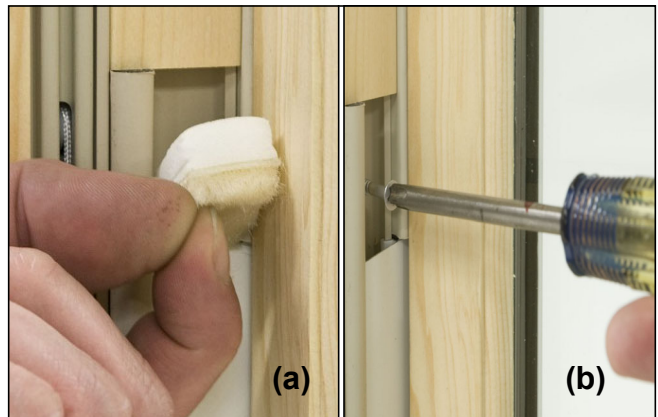

Figure 4
3. Space fasteners along jambs and head jambs no more than 6" (152) from each corner and 15" (381) on center.
4. Install screws through check rail. See figure 4.
3. Remove check rail fuzzy. Install screws through checkrail and reinsert check rail fuzzy. See figure 4.